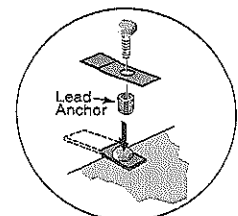

Figure 11.
If the heater is located under a roof overhang, there must be at least three (3) feet (1m) of clearance between the bottom of the overhang and the top of the heater exhaust vent, see Figure 11. If the heater is under a roof overhang, the space around the heater must be open on three sides. **DO NOT, under any circumstances, install the heater under ANY deck.**